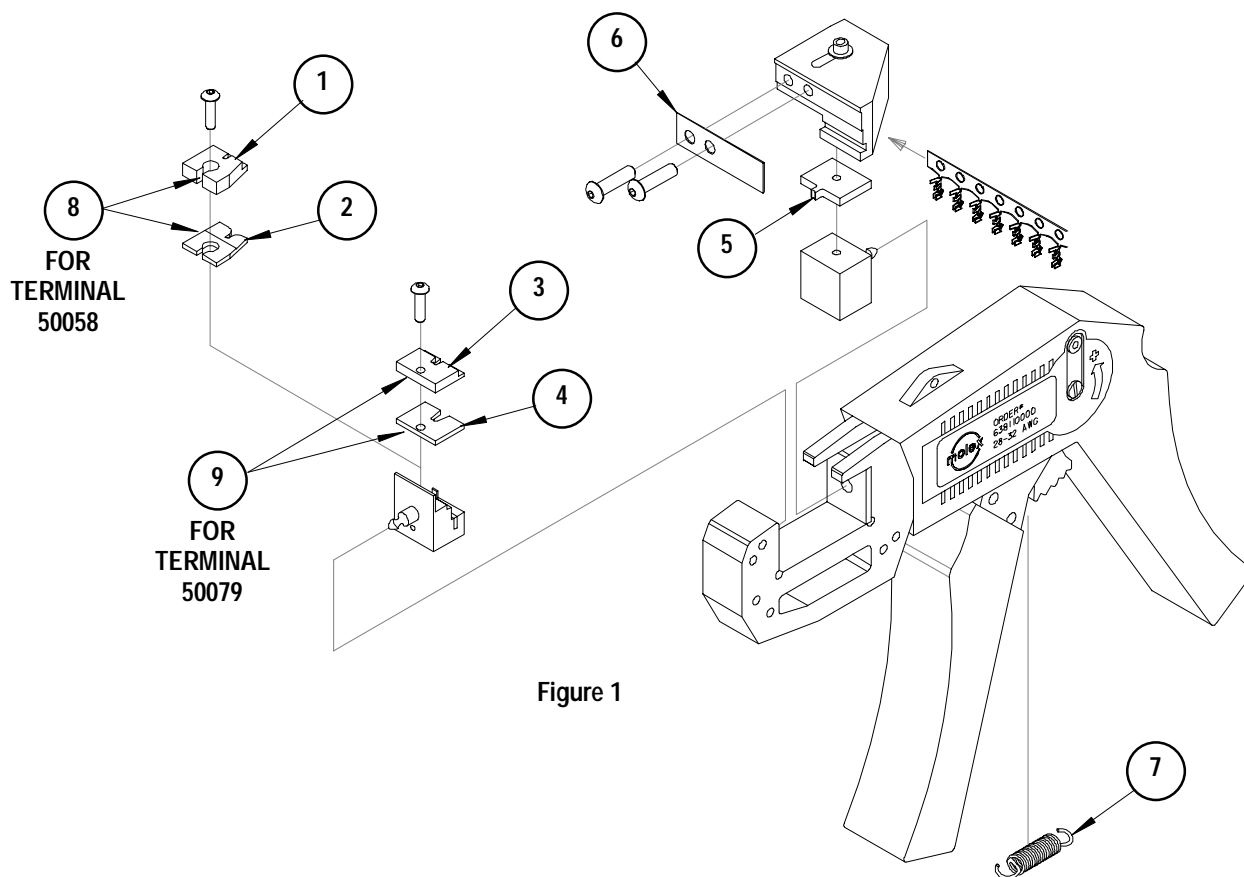

Figure 1
**Note:** There are different tooling sets for each terminal listed above. See parts list and Figure 1 for the correct tooling for each terminal.